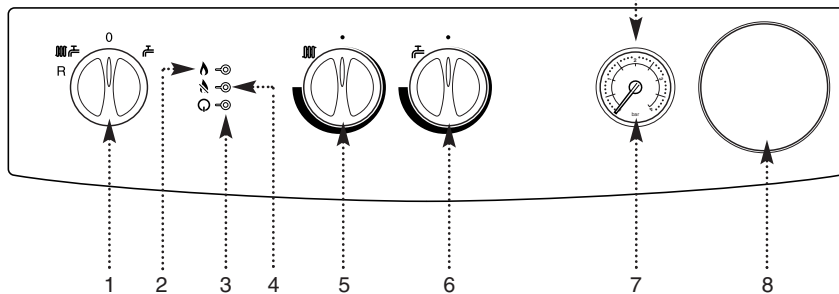

Fig. 4
3. In either position the green power on neon (⊙) will illuminate (Fig. 4).
7. The orange burner on neon (🔥) will illuminate when the boiler is operating and the main burner is on (Fig. 4).